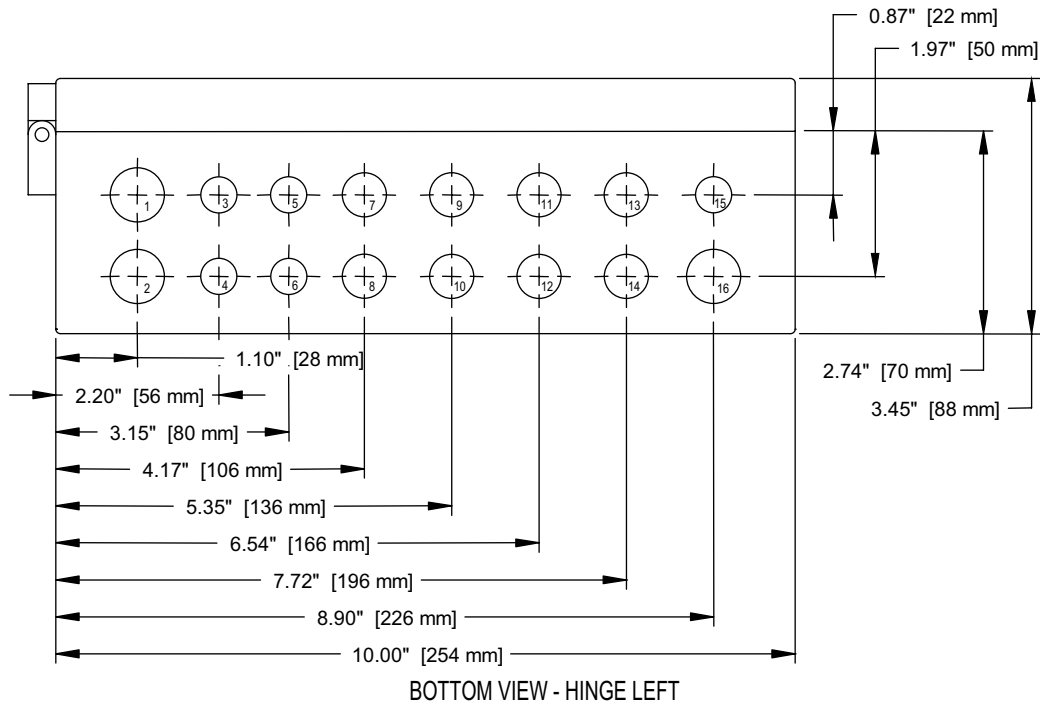

Figure 8-5
- SEE FIGURE 8-5 FOR RECOMMENDED AWG CONDUCTOR SIZES.